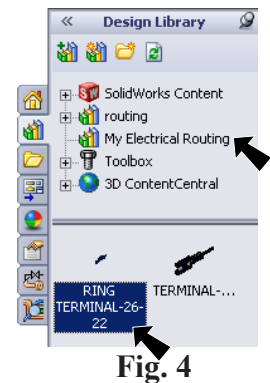
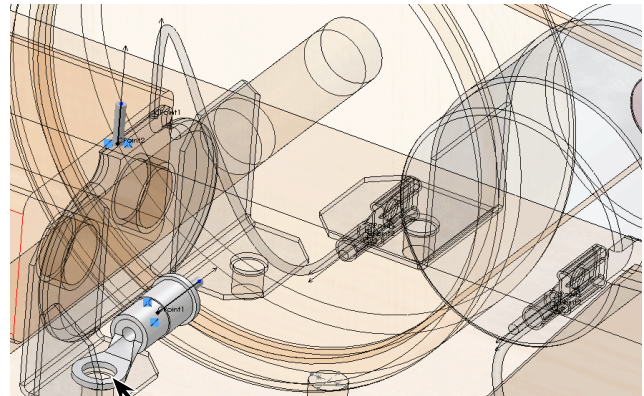

Fig. 4
Fig. 5
Step 4. Click the **Design Library**  in the Task Pane select **My Electrical Routing** , Fig. 4.
Step 5. In the Design Library lower pane, drag **RING TERMINAL-26-22**, Fig. 4 towards hole in left L-Bracket. Move the tip of your cursor to the edge of the hole, Fig. 5. When the Ring Terminal snaps into place and cursor changes to  concentric and coincident mate, release the component.